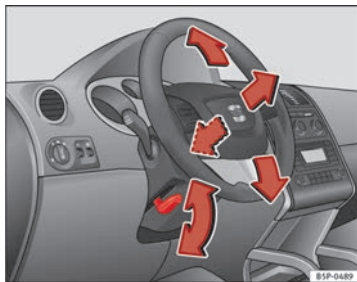

Fig. 137 Adjusting the steering wheel position
- Push the lever under the steering column ⇒ Fig. 137 down ⇒ ⚠.